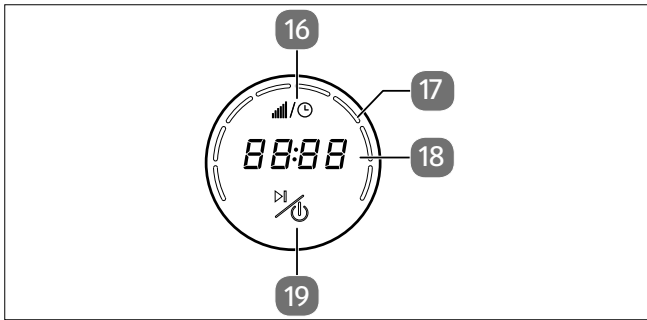

Fig. 3 – Control elements/display field
4. Speed regulator (turning)/controls/display field (see Fig. 3)